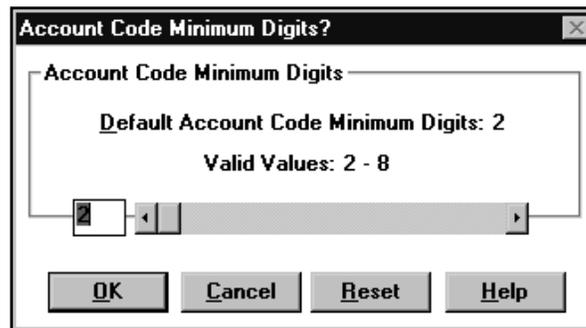

FIGURE 104. Example of Account Code Minimum Digits dialog box
1. To select the minimum number of digits in the account code, select Acct Code Min Digits in the configuration window. (See Figure 104.)